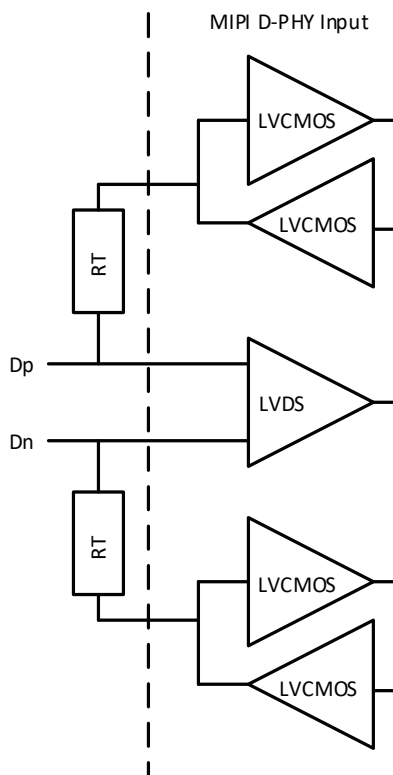
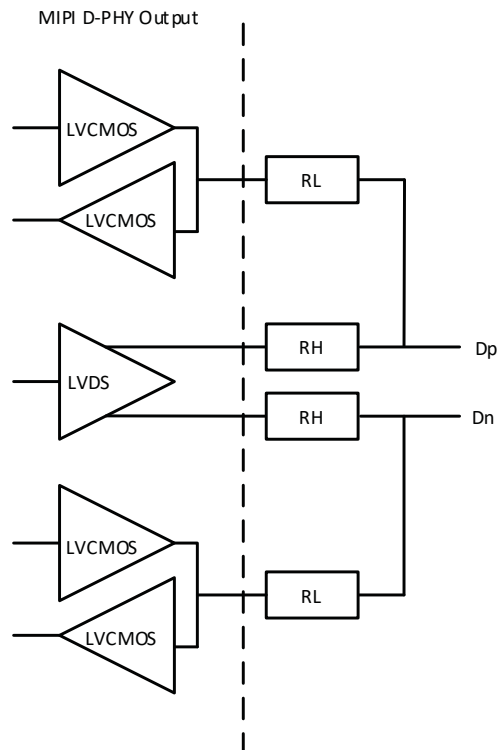

Figure 3.4. MIPI D-PHY Input Using External Resistors
Figure 3.5. MIPI D-PHY Output Using External Resistors
MachXO4 RoT devices can support MIPI D-PHY unidirectional High Speed (HS) and bidirectional Low Power (LP) inputs and outputs through emulation. In conjunction with external resistors, High Speed I/O use the LVDS25E buffer and Low Power I/O use the LVCMOS buffers. The scheme shown in Figure 3.4 is one possible solution for MIPI D-PHY Receiver implementation. The scheme shown in Figure 3.5 is one possible solution for MIPI D-PHY Transmitter implementation.